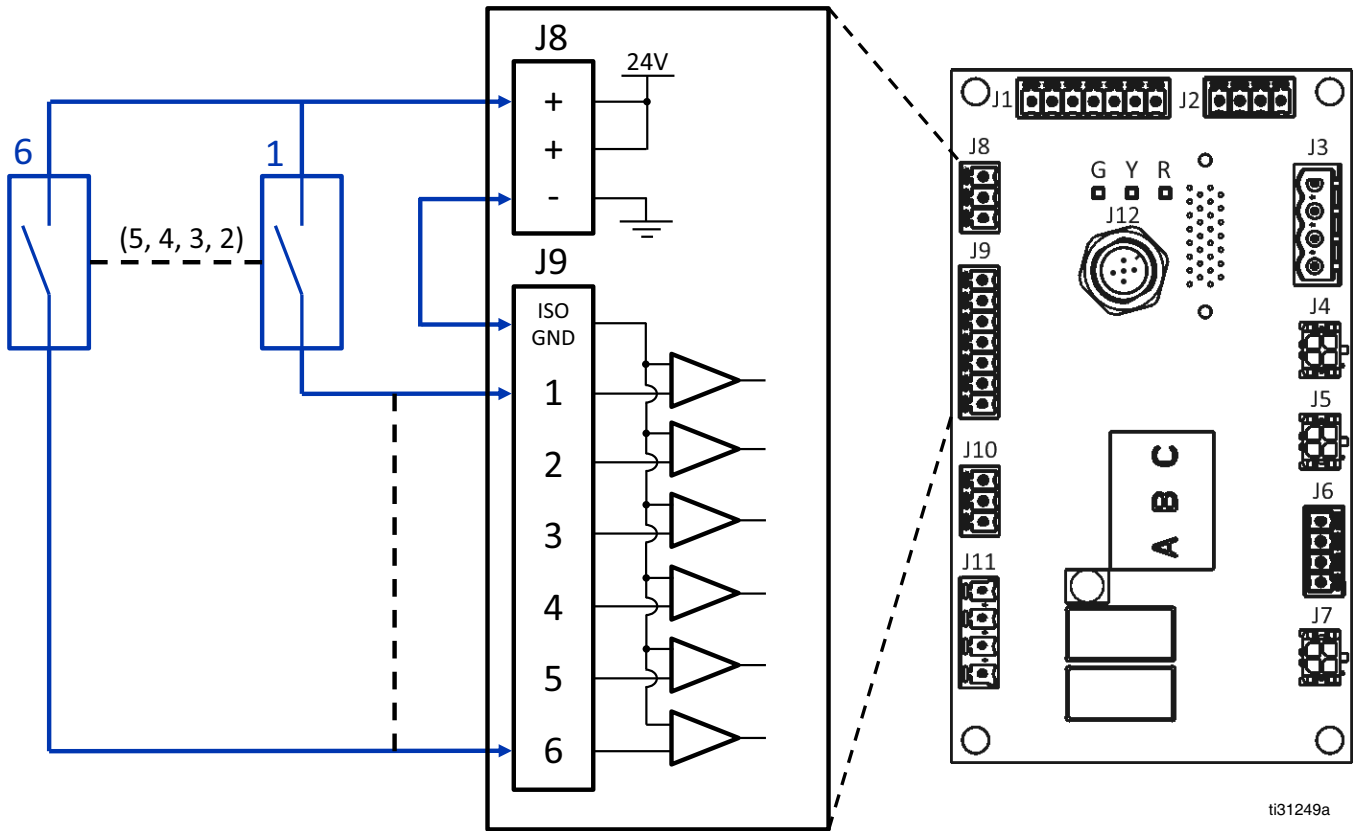

FIG. 14: Dry Contact Inputs (Open/Closed Circuit) Wiring (J8 and J9)
- **Dry Contact Inputs Wiring (Open/Closed Circuit)**, page 23. See FIG. 14 for reference.